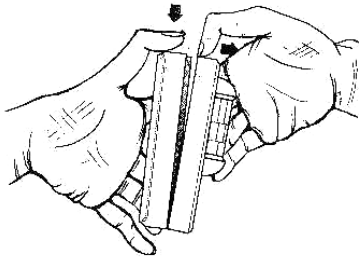

Fig. 1
1. Remove the front cover by holding the base in one hand, and squeezing the top center of back cover with the other hand (Fig.1).